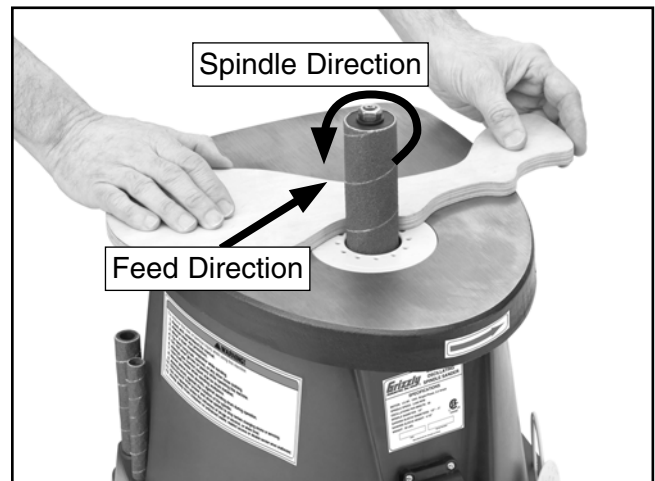

Figure 17. Sanding workpiece example.
2. Using both hands to maintain control of workpiece, guide workpiece against rotation of spindle, as shown in **Figure 17**. DO NOT force workpiece against sanding sleeve. Allow machine to do the work.